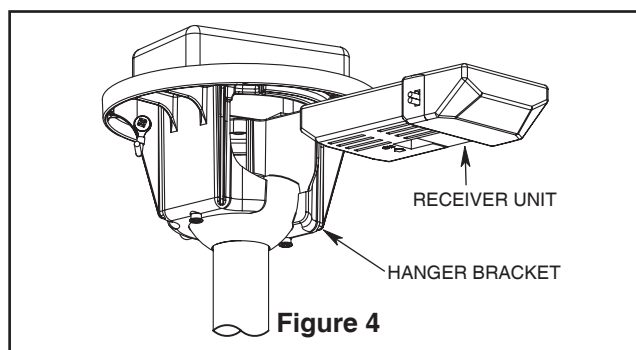

Figure 4
- 3. Slide the receiver unit into the open end of the hanger bracket (Figure 4).